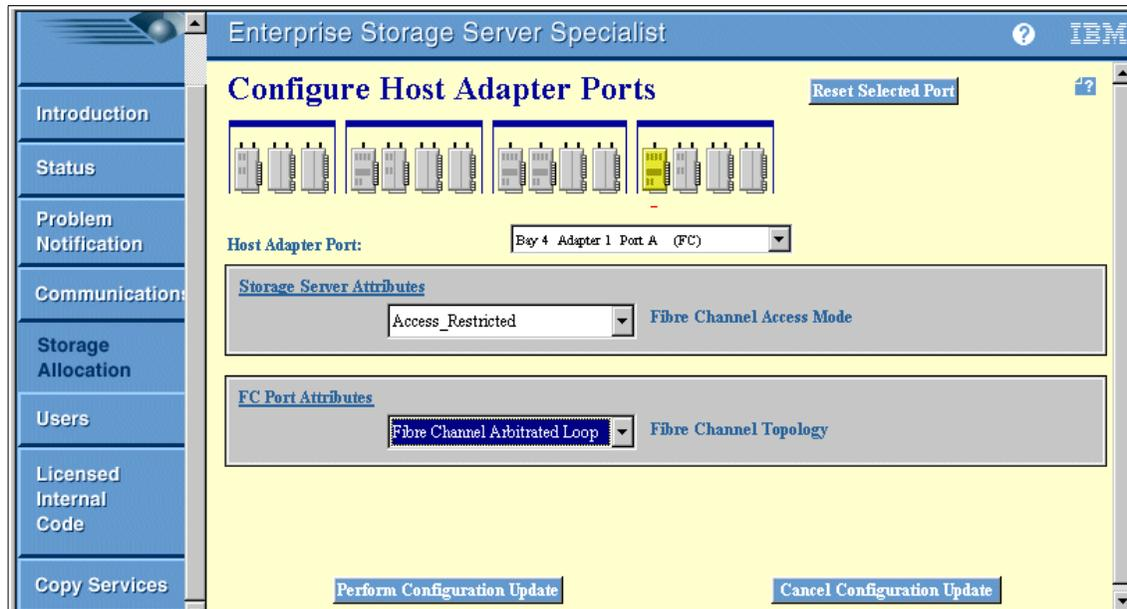

Figure 16. Selecting the Fibre Channel topology
10. Under FC Port Attributes, select the proper topology (in this example in Figure 16, we use *Fibre Channel Arbitrated Loop*).